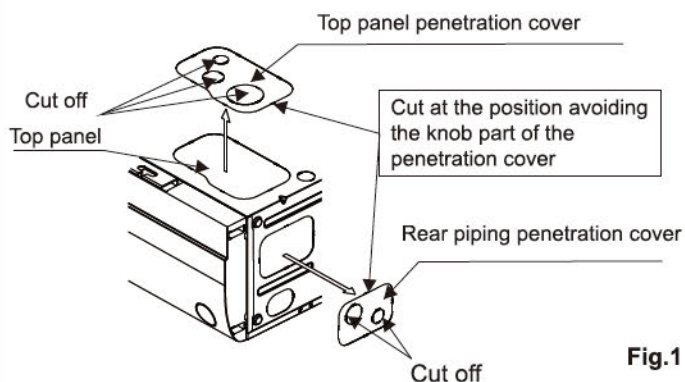
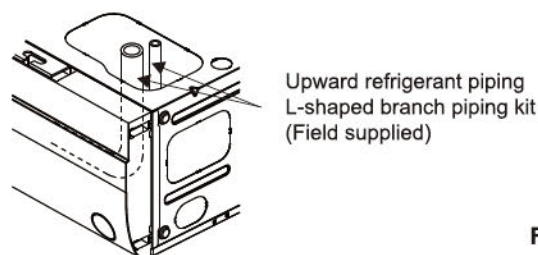

Fig.1
Fig.2
- Remove the rear piping penetration cover, and connect the piping. (Refer to Fig.1 and Fig.3)
- Remove the top panel penetration cover, and use the L-shaped connection piping kit (Field supplied) to connect piping. (Refer to Fig.1 and Fig.2)